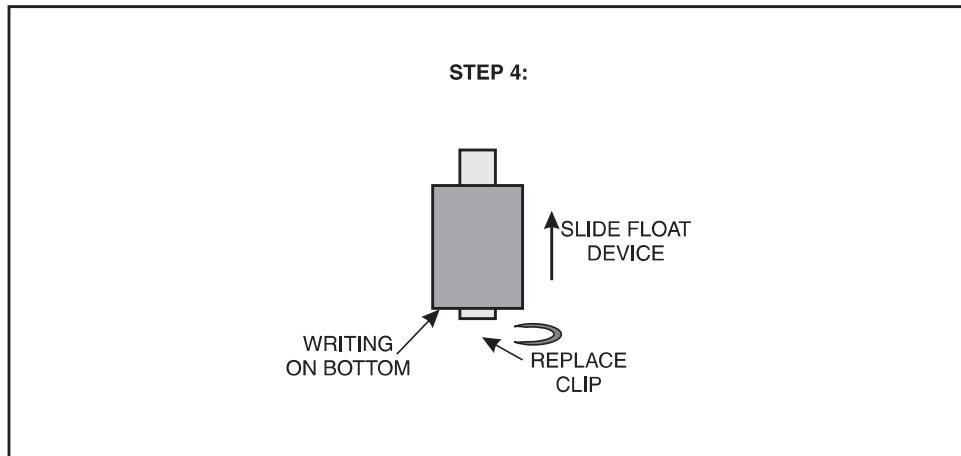

Figure 1-9. Replace Float Device and Retaining Clip
D. Slide the float device back on the shaft and replace the retaining clip, as shown in figure 1-9.